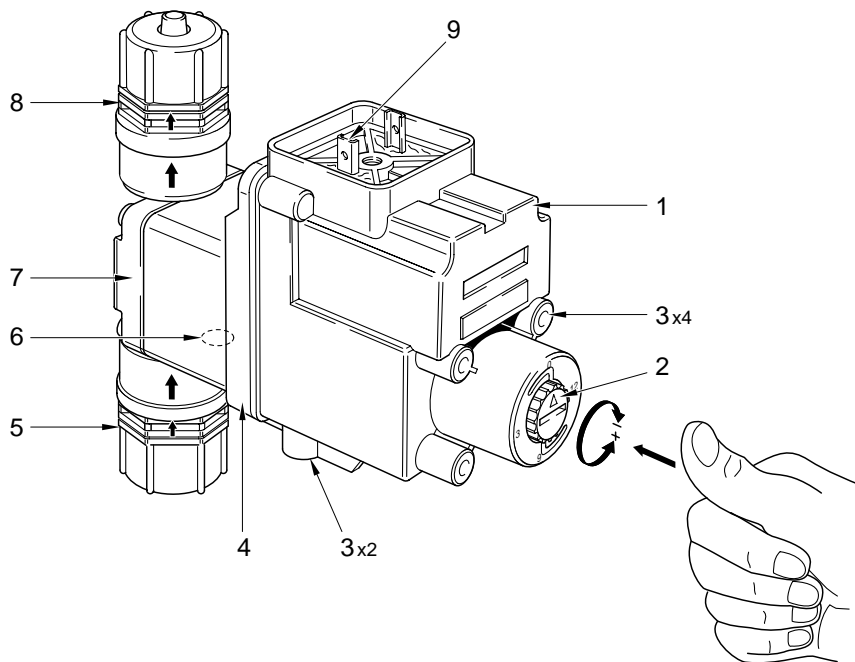

Fig. 1
The **Topmater R15** dosing pump automatically meters liquid detergent from the product container to the wash tank as long as the appropriate enable signal is applied from the dishwasher. The adjustment screw (2, Fig. 1) allows you to adjust the dosage between 0 and 100% in 15 steps.
If you press the adjustment screw (2, Fig. 1) the product feed hose and dosing hose can be filled quickly and the pump head can be bled quickly when the unit is put into operation for the first time and after any repairs have been carried out.
- The unit must be mounted in such a way that the safety outlets (6, Fig. 1) in the pump head (4) do not point upward.
Perform the mounting of the unit using two special screws (EJOT B40x10, in the package supplied). Threaded attachment holes on the housing are provided for this purpose [two on the bottom of the housing and four on the back of the housing] (3, Fig. 1).
The dosage can be set between 0 and 100% in 15 steps using the dosage adjustment screw (2, Fig. 1). Maximum dosage is achieved when the screw is turned fully counter-clockwise.
2. Set the pump stroke to maximum dosage and bleed the product feed hose, the pump head and the dosing hose by repeatedly pressing the adjustment screw (2, Fig. 1).